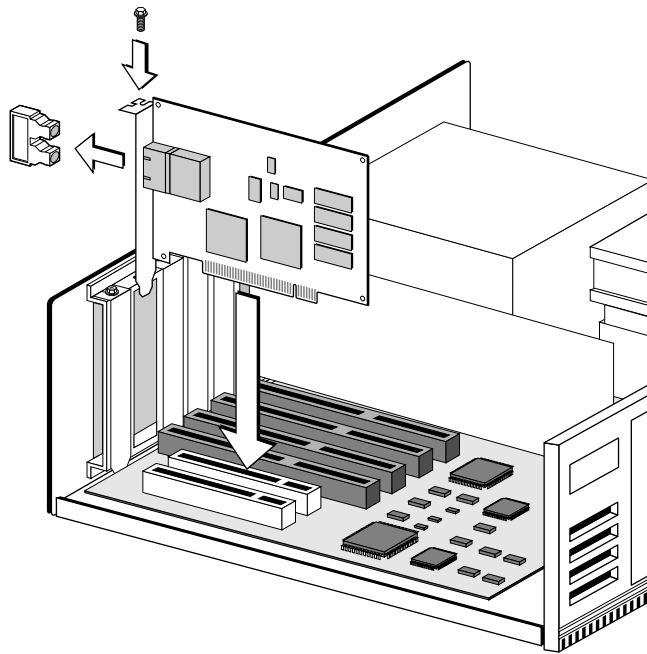

Figure 2-2 3C975-F ATMLink NIC Installed in the Chassis
- 8 Insert the 3C975 ATMLink NIC in the selected slot, as shown in Figure 2-2.